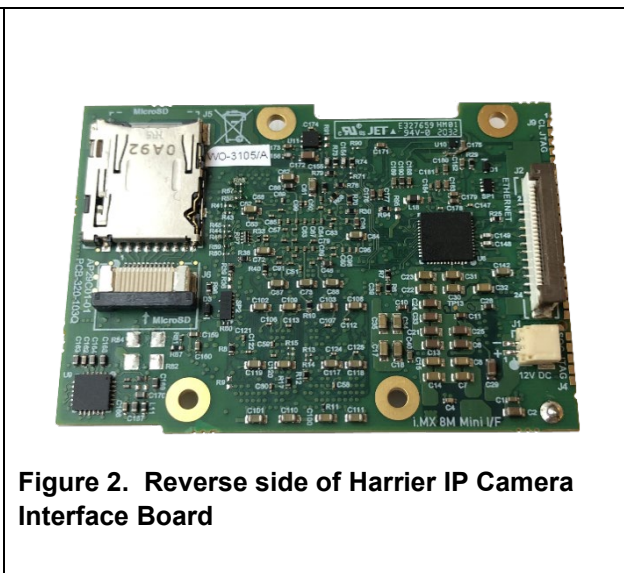

Figure 2. Reverse side of Harrier IP Camera Interface Board
1. Connect the Harrier IP Camera Interface Board (SoC board J2) to the Harrier PoE/Ethernet Connection Board (J1) using a 24-way 0.5mm pitch double ended (same side contacts) FFC cable. Ensure that the cable is connected the right way round. For the SoC board (J2) the metal contacts should face towards the microSD socket (see figure 2). For the connection board (J1), the metal contacts should face the PCB.